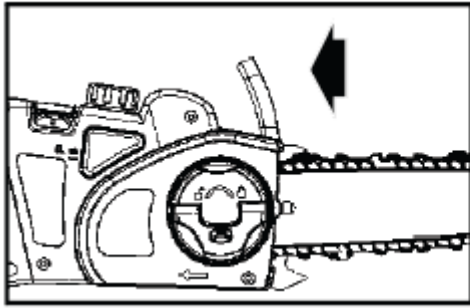

Fig. 6A
1. Make sure the chain brake is disengaged. The engine will not start if the chain brake is in the engaged position. Disengage the chain brake by pulling back towards the motor (Fig. 6A).